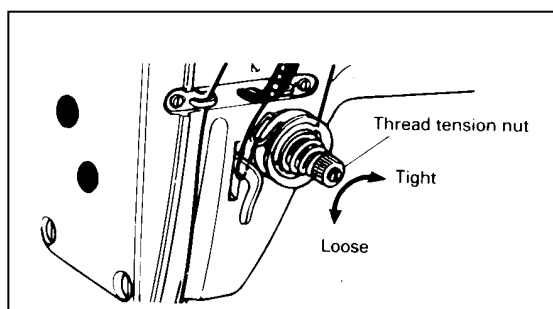

Fig.18
21、 Upper thread tension (Fig.18):